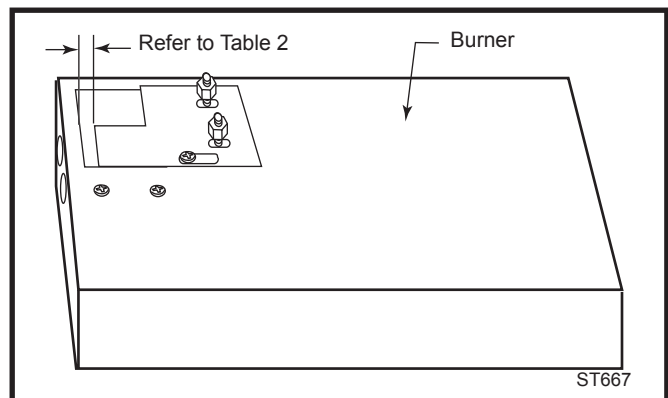

Fig. 54 Adjust air shutter according to Table 2.
10. Air shutter adjustment. The unit is shipped from the factory with the air shutter open 1". For LP units only, the air shutter could be closed further. Refer to Table 2 for minimum air shutter opening. The air shutter is located on the bottom of the burner to the left. Unfasten the two nuts holding the shutter in place. Adjust the air shutter as needed according to Table 2. (Fig. 54)